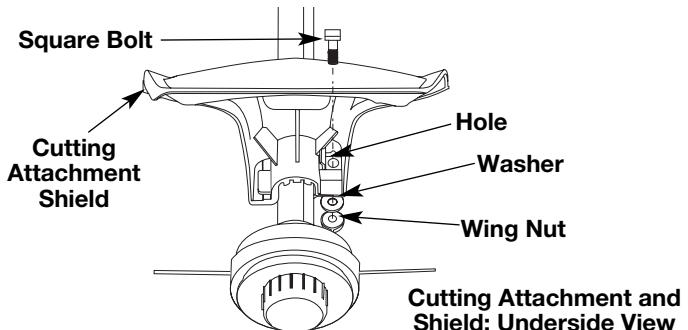

Fig. 4
- Put the washer on the bolt, then screw the wing nut onto the bolt and tighten. Figure 4 shows the installation process from underneath the unit.